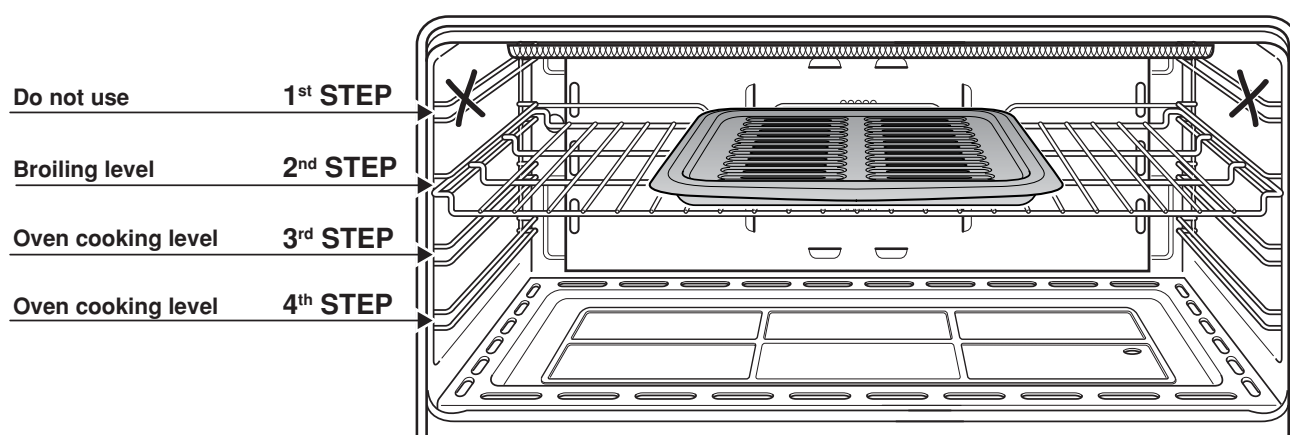
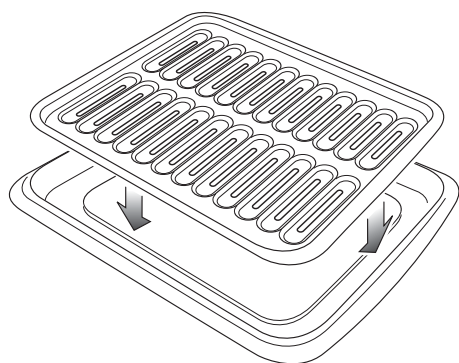

Fig. 3.7
Fig. 3.8
- Position the shelf on the second level from the top (fig. 3.7).
- Introduce the broiling pan in the oven (fig. 3.8). The broiling pan should be placed above the shelf and it should be centered with the broil burner (fig. 3.7).